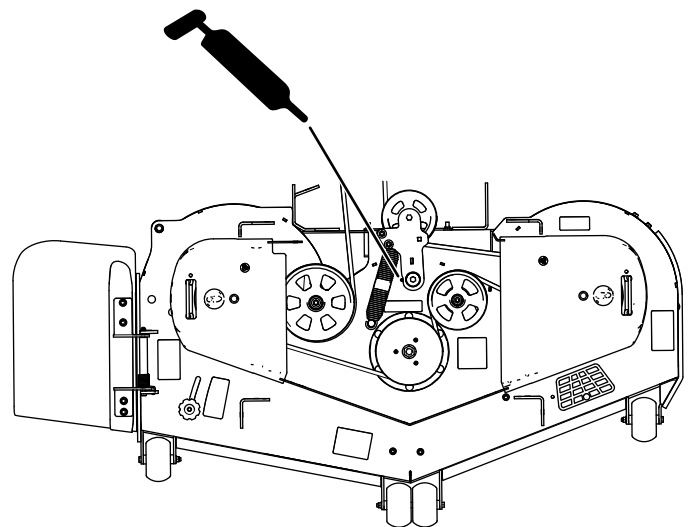
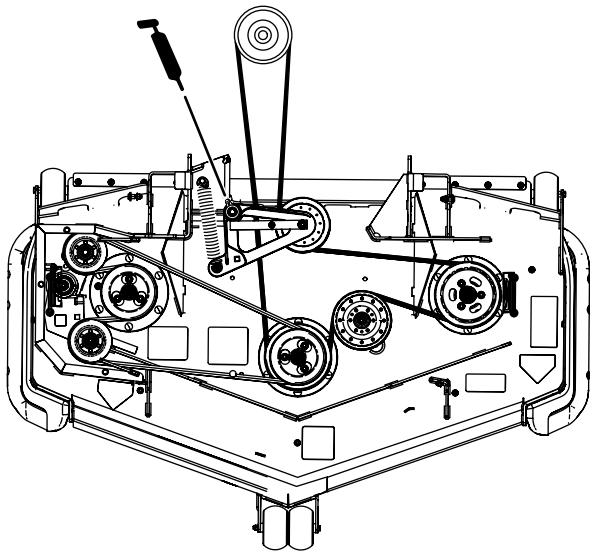

Figure 48
Figure 49
3. Grease the mower deck idler-pulley pivot until grease comes out the bottom (Figure 48 or Figure 49).